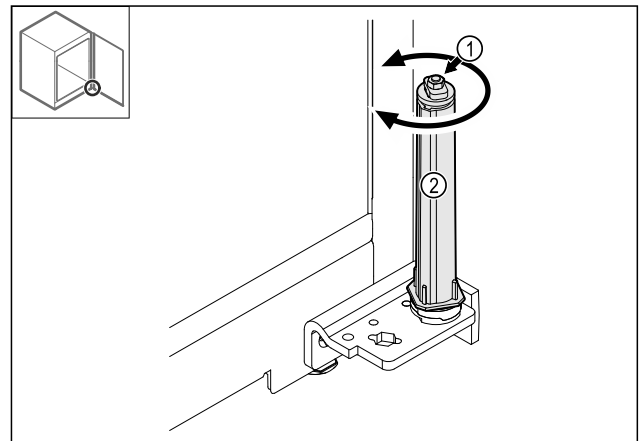

Fig. 40
- Do not disassemble the screw connection Fig. 40 (1) of the closing system.
- Turn the closing system Fig. 40 (2) until it clicks.